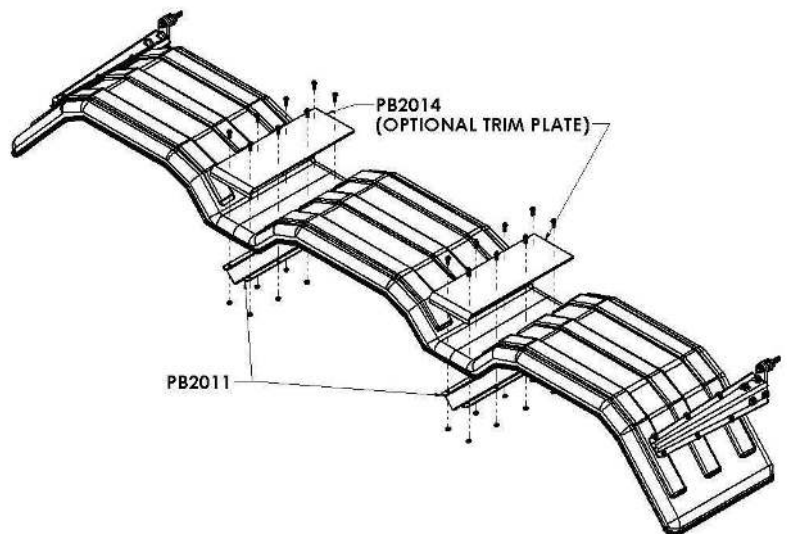

Figure 5
D. Make sure the center bracket and trim plate (if purchased) are centered between the two fenders (Figure 5).